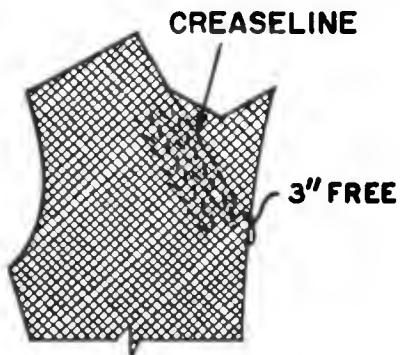

Fig. 157. Pad-stitching.
3. Pad-stitch one or two rows parallel to the breakline, beginning 1 in. behind the breakline at the neck edge, stopping 3 in. short of the coat edge at the bottom of the creaseline (Fig. 157). (Some tailors omit this pad-stitching.)